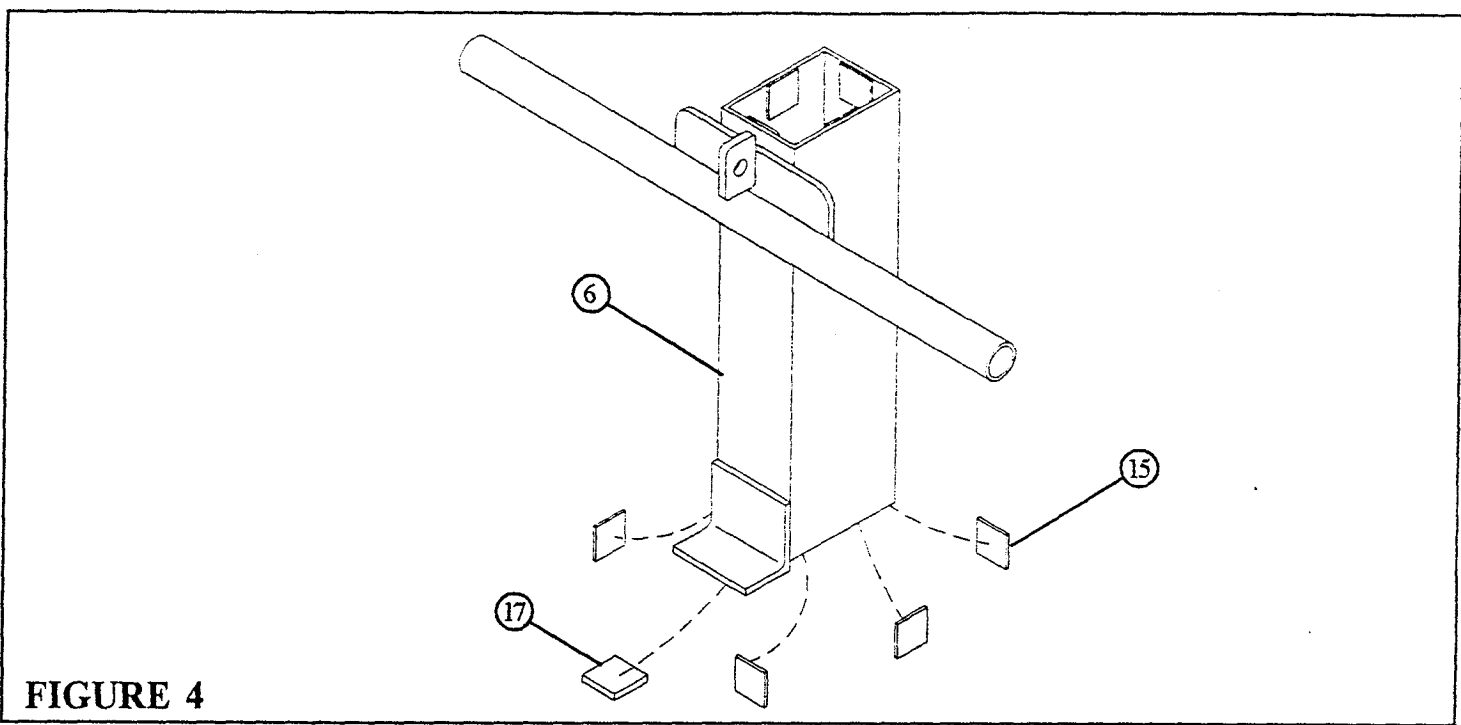

FIGURE 4
- Attach eight 1 X 1" GLIDES (15) to the ends the CARRIAGE (6) as shown in FIGURE 4 using the following steps:
- Thoroughly clean all surfaces where the 1 X 1" GLIDES (15) are to be attached.
- Remove the 1 X 1" GLIDES (15) from the paper backing and firmly apply them to all shown surfaces.
- Attach one 1-1/4" SQ. RUBBER BUMPER (17) to the underside of the angle on the CARRIAGE (6) as shown in FIGURE 4.